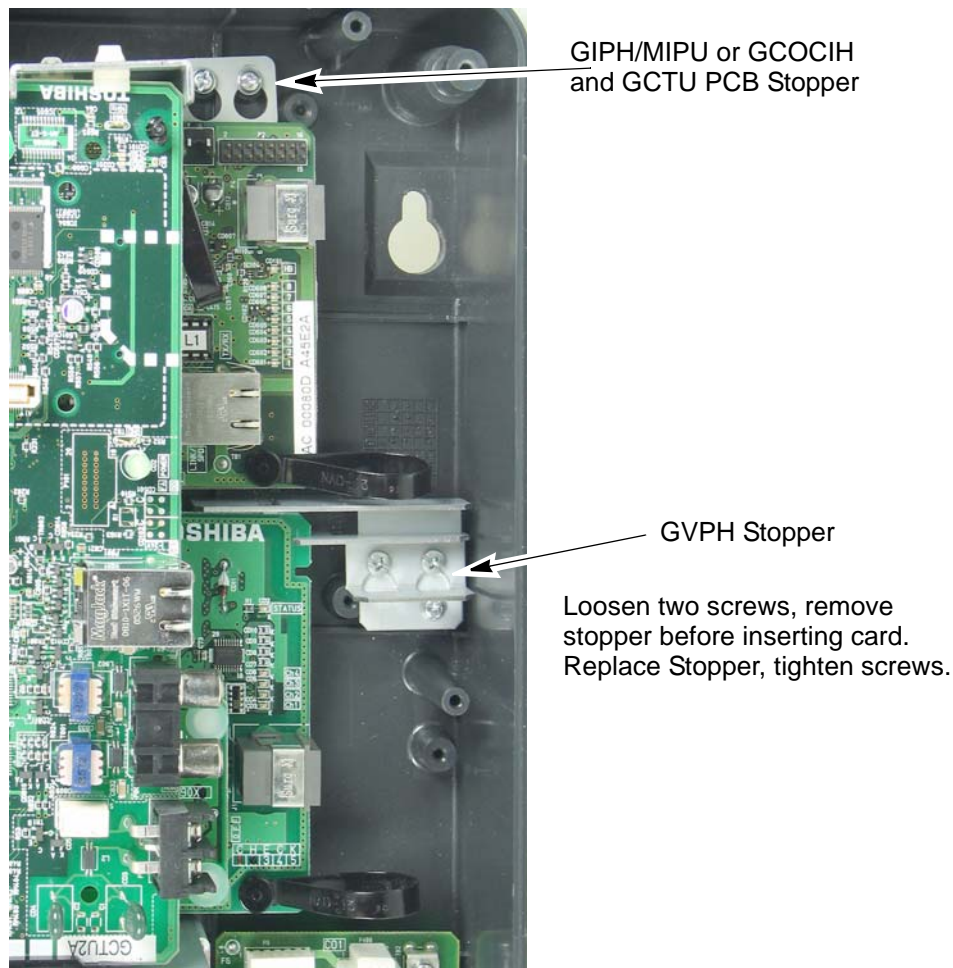

Figure 1-18 Card Stopper and Retainer
7. Replace the GVPH1 stopper and secure with the two screws. Refer to Figure 1-18.